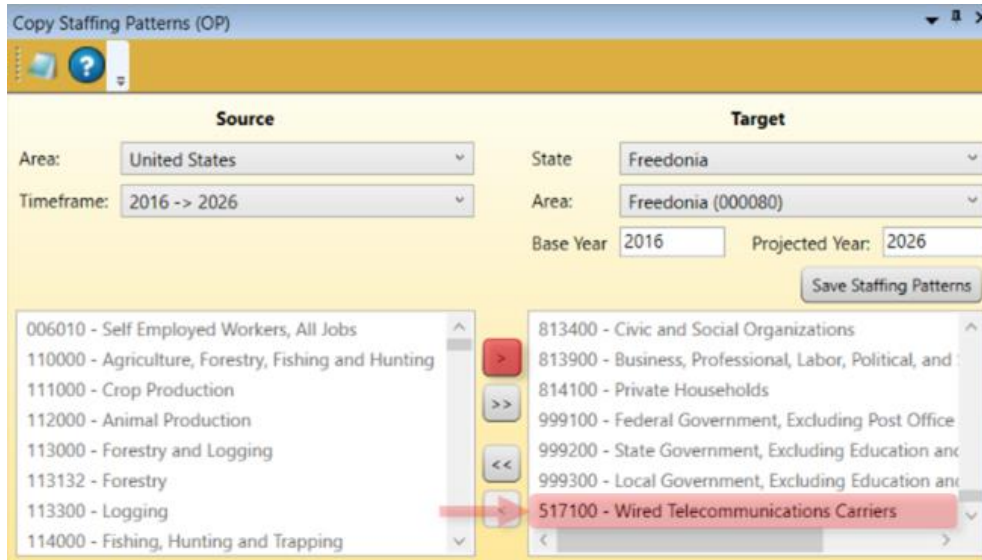

Figure 5: The 517100 industry is moved from the Source list to the Target list
9. Click the **Move**  button (the example in Figure 5 uses the move button). Alternatively, click the **Move All**  button to move all available industries to the **Target** list.